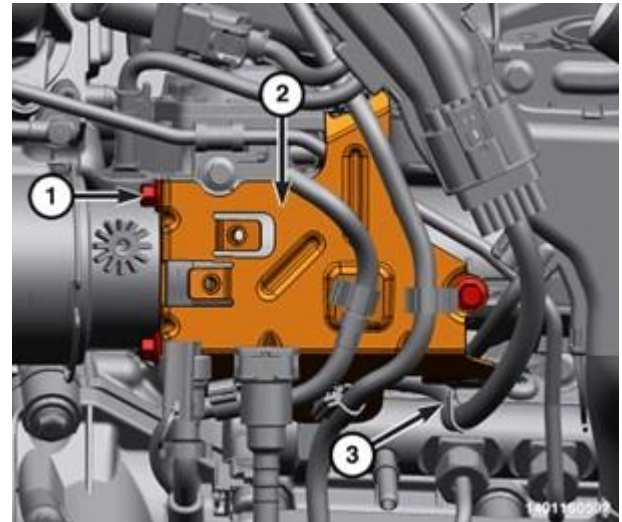

Figure 22 – Harness Retainer
- 43. Detach the wire harness retainer (3) (Figure 22).
- 44. Remove the bolts (1) fuel line support bracket (2) (Figure 22).